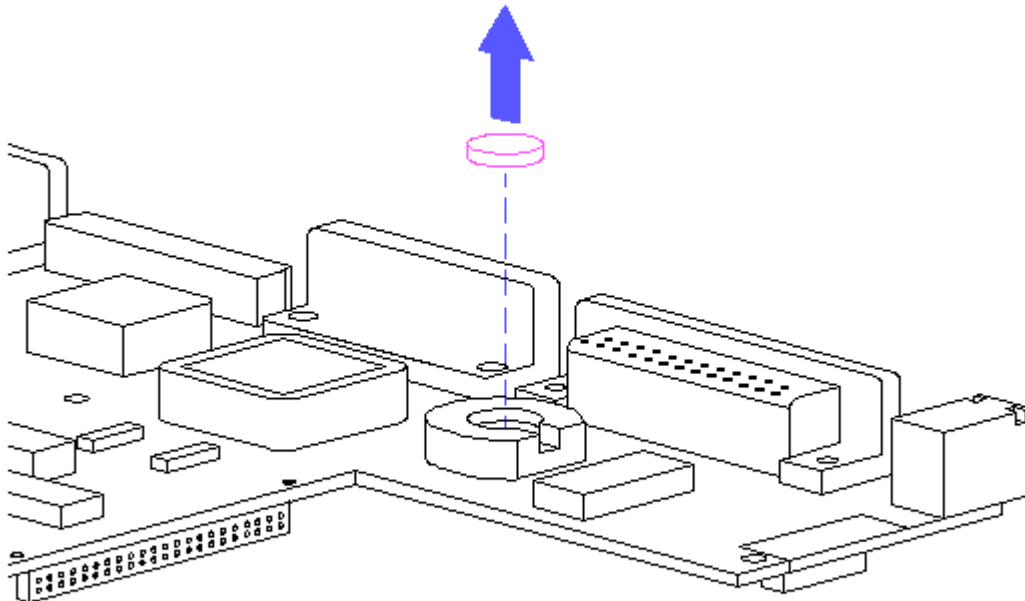

Figure 3-52. Removing the Real Time Clock Battery
4. Remove the real time clock battery from the system board by inserting a nonconductive probe into the battery holder and pushing back on the battery to release it (Figure 3-52).